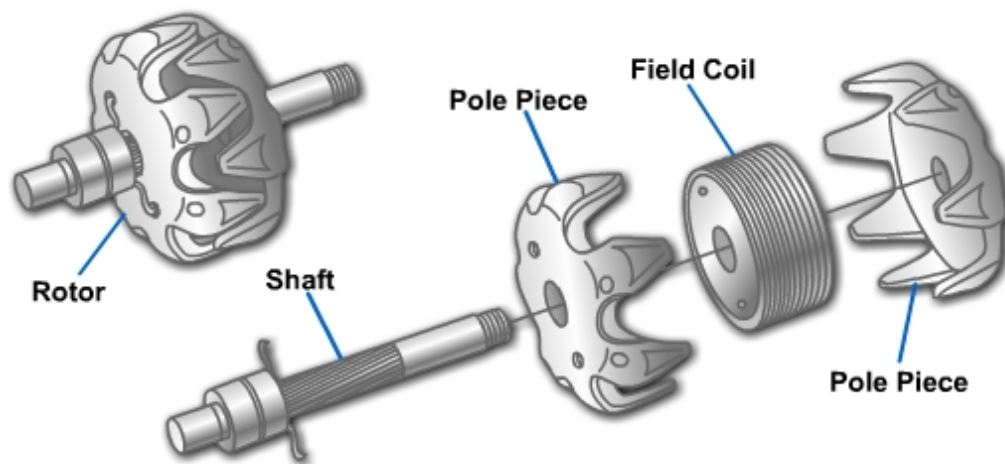

Figure 8-10 — Rotor assembly.
- The rotor assembly (rotor shaft, slip rings, claw poles, and field windings) consists of field windings (wire wound into a coil placed over an iron core) mounted on the rotor shaft (*Figure 8-10*). Two claw-shaped pole pieces surround the field windings to increase the magnetic field.